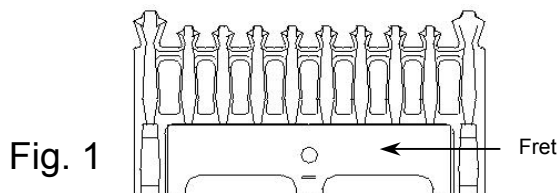

Fig. 1
1. Remove the fret (Fig. 1), to gain access to the controls. (Fig. 2).